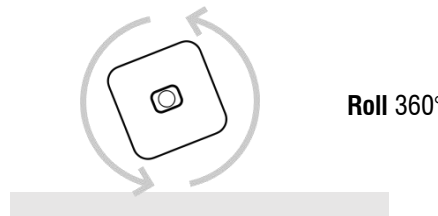

Figure 12D
- iv. While GREEN & RED LED are flashing alternative for Gesture Recognition then roll Custos WWD in one complete turn “360°” and stick close to table surface as Figure 12D;